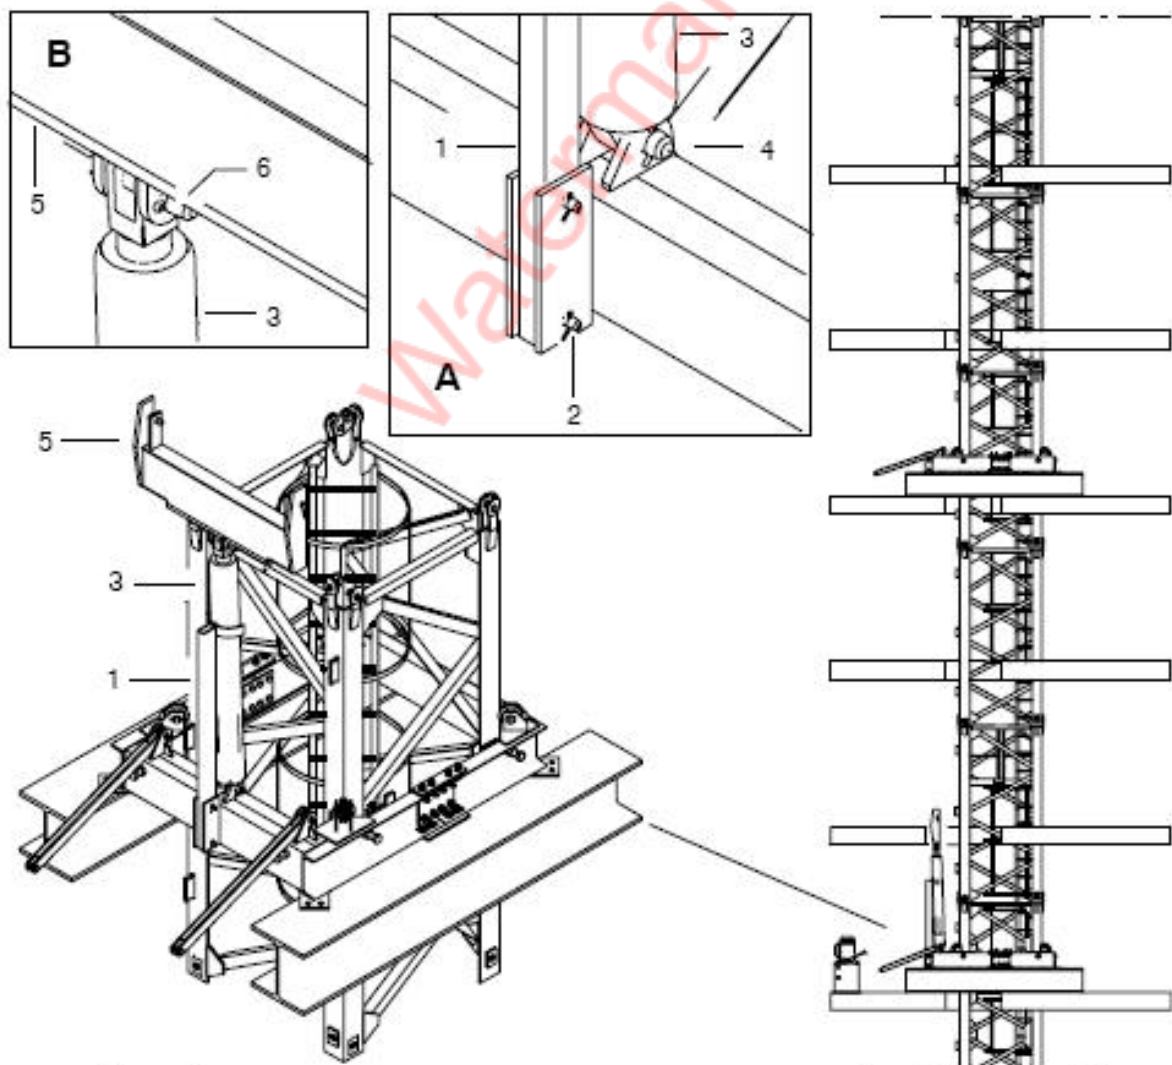

Figure 4
_ Fit the cylinder stop (1) onto the collar by means of the shafts (2); fix with split pins (Detail A – Figure 4).
_ Fit the telescoping cylinder (3) by means of the shaft (4), fix with split pin (Detail B – Figure 4).
_ Fit the telescoping yoke (5) onto the cylinder by means of the shaft (6); fix with split pin (Detail B – Figure 4).